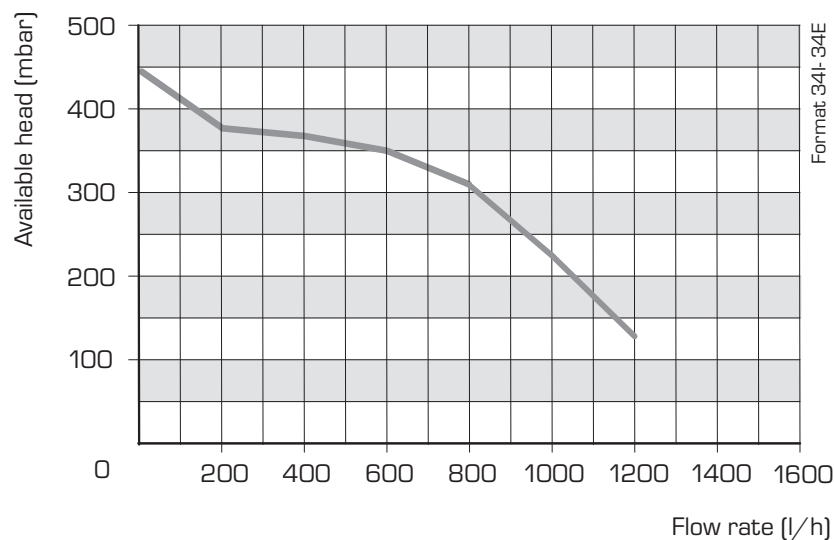

Fig. 5
- The available pump head is given in fig. 5.
- The appliance is equipped with an internal by-pass that operates with system heads (H) greater than 3 m. The maximum flow through the by-pass is about 300 l/h. If thermostatic radiator valves are to be installed, at least one radiator should be without a thermostatic valve (usually the bathroom radiator).
The available head shown in fig. 5 is that in excess of the appliance hydraulic resistance, i.e. that available for the system at any given heating load up to the maximum output in C.H. mode.